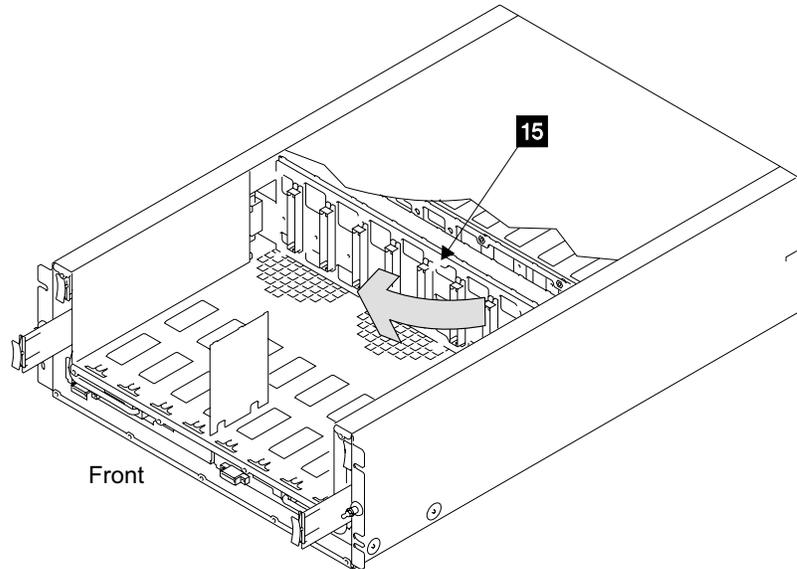

Figure 50. Front Backplane Assembly Removal (S008403m)
- Front backplane assembly, not visible (R2-, R3-, R4-Yxx-P1) **15** in Figure 50 on page 41